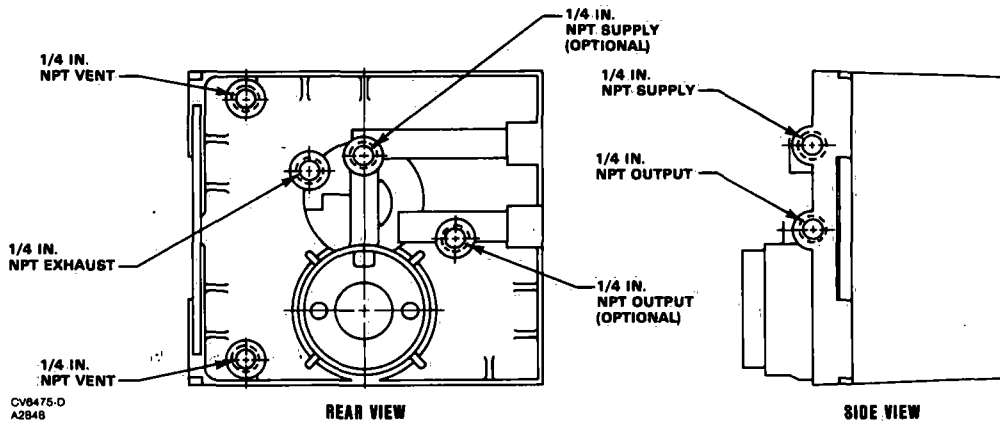

Figure 2. Controller Pressure Connections
CONNECTIONS	<p>Supply and Output: 1/4 in. NPT female located on the side of the case with optional connections on the back (see figure 2); plug the unused connections</p> <p>Case Vents and Relay Exhaust: 1/4 in. NPT female with vent screen assemblies located on the back of the case</p>
2. Connect the supply pressure to the 1/4-inch NPT female connection on the side or back of the controller (see figure 2). Plug the unused supply pressure connection.
3. Connect the output signal line to the equipment being operated and to the 1/4-inch NPT output connection on the side or back of the controller (see figure 2). Plug the unused output connection.